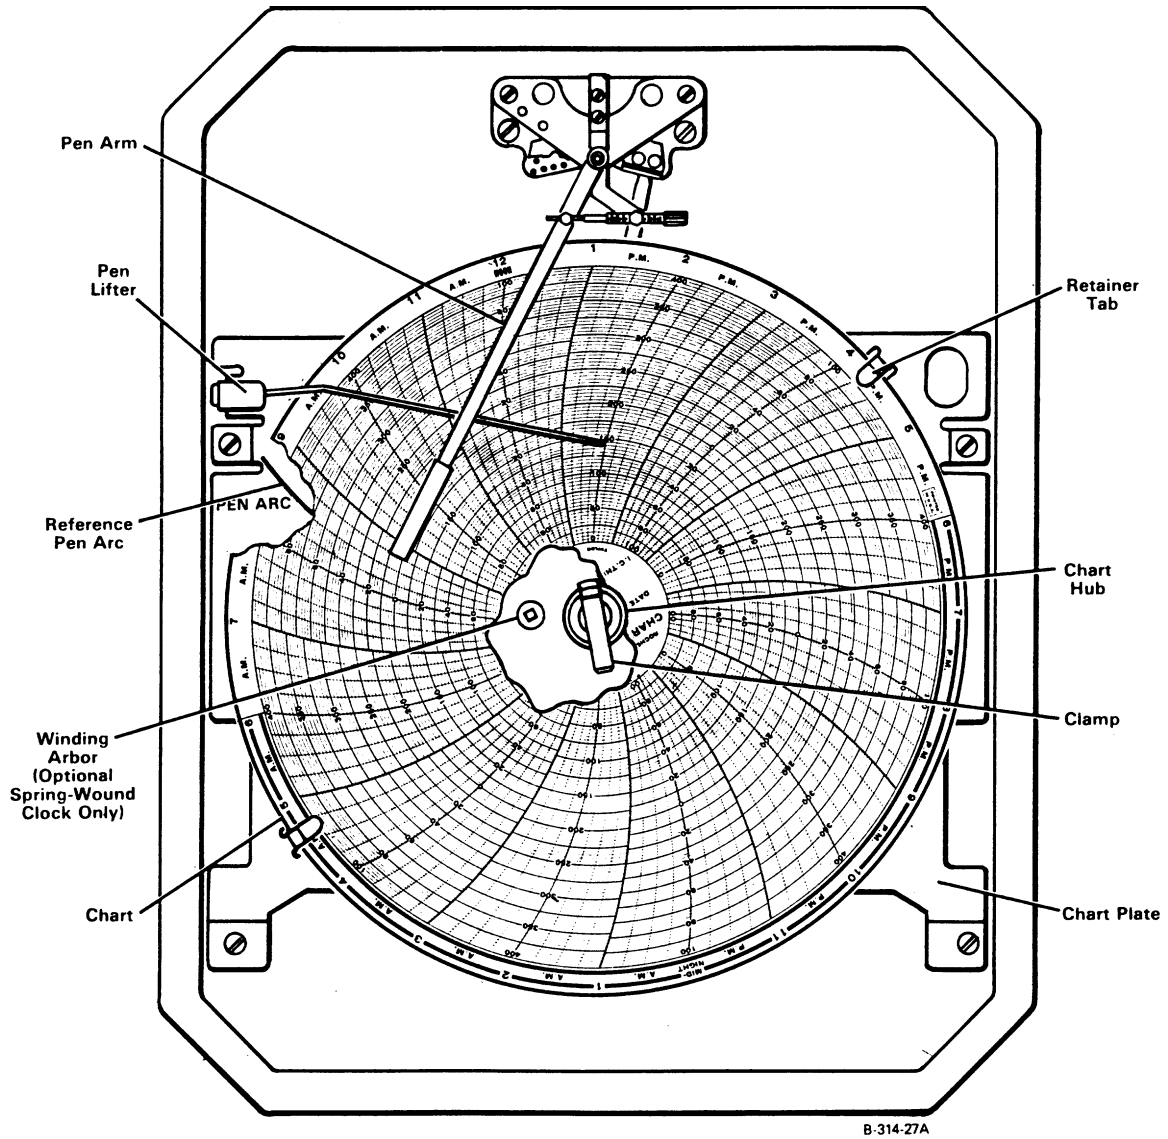

Figure 7. Chart Plate and Chart Drive Components
1. Pull pen lifter forward to raise pen off chart, Figure 7.
1. Pull pen lifter forward to raise pen(s) off chart, Figure 7.